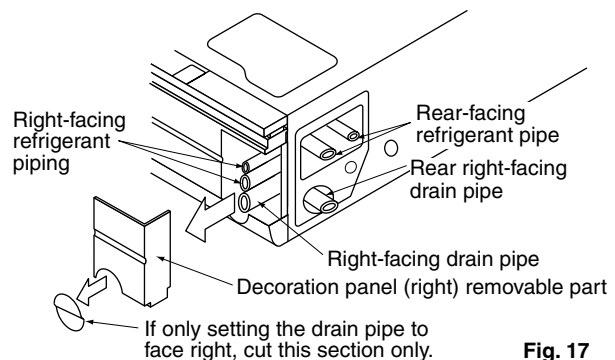
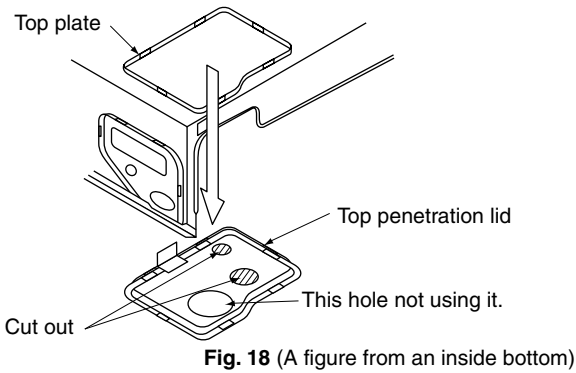

Fig. 17
Fig. 18 (A figure from an inside bottom)
(1) For piping facing back.
- Remove the rear metal plate for pipe. (Refer to Fig. 17)
(2) For piping facing up.
- Removing the top penetration lid and use the L-shaped branch pipe kit sold separately to set the pipe. (Refer to Fig. 18, 19)
(3) For piping facing right.
- Cut out a slit hole on the decoration panel (right) and set the pipe. (Refer to Fig. 17)
- When piping is complete, cut the removed penetration lid into the shape of the pipe using scissors and attach. As when before removing the top penetration lid, secure the lead lines for the swing motor and thermistor by passing them through the clamp section on the top penetration lid. (Refer to Fig. 18, 20)